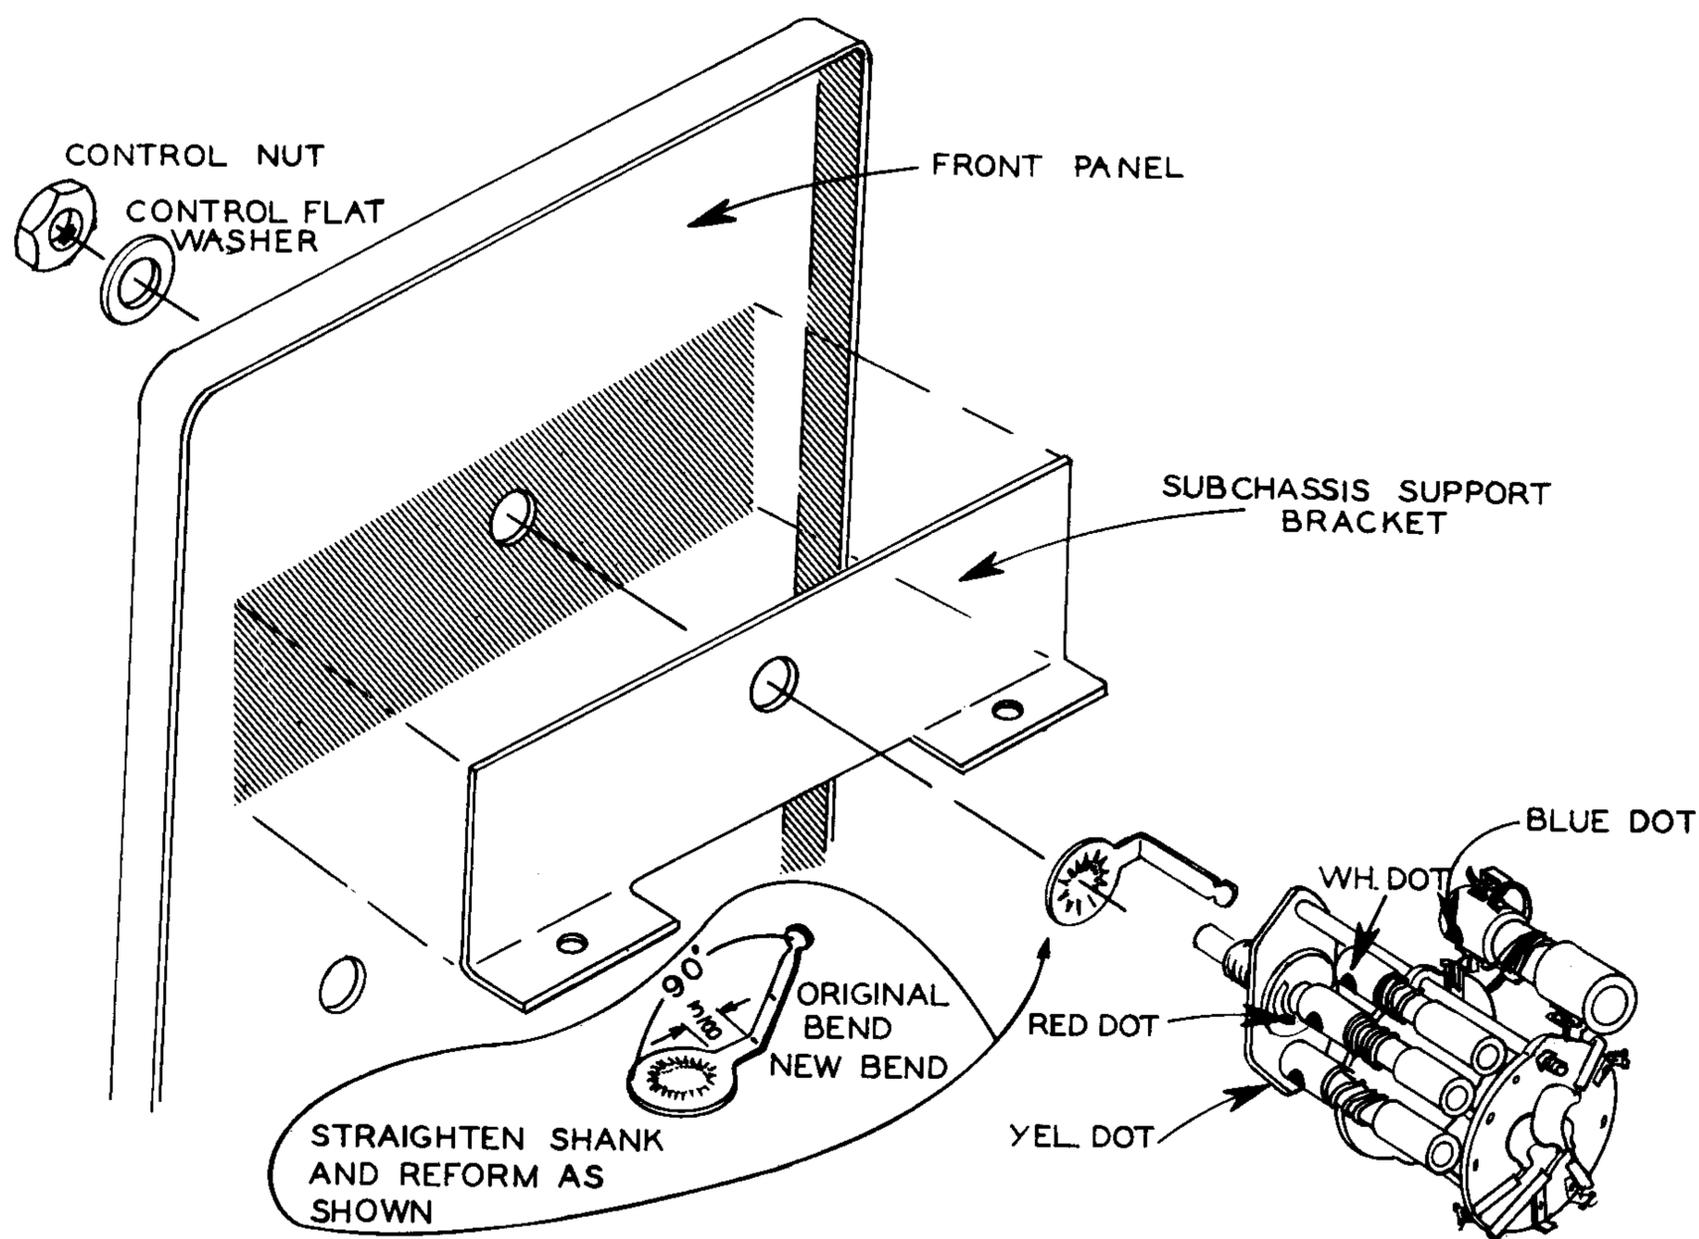

Figure 11
- (✓) Secure the subchassis support bracket to the panel by mounting the Frequency Selector switch, as shown in Figure 11. Use a control solder lug, formed as shown, between the switch and subchassis bracket, and a flat washer between the panel and nut. Orient the switch as indicated, and tighten the nut securely. The end of the solder lug should be adjacent to lug 2 of wafer FD.
- (✓) Wrap the free end of the .005 μ fd disc capacitor previously connected to lug 6 of wafer FD around the solder lug once (NS), and then on to lug 2 of wafer FD (NS). Now solder the lead to the solder lug (S-1).